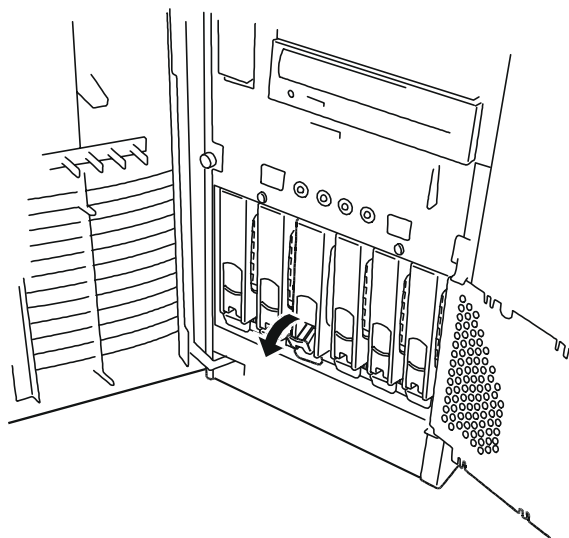

Figure 4-15. Removing a Hard Disk Drive and Carrier
- Push the disk carrier locking tab downward (see Figure 4-15).